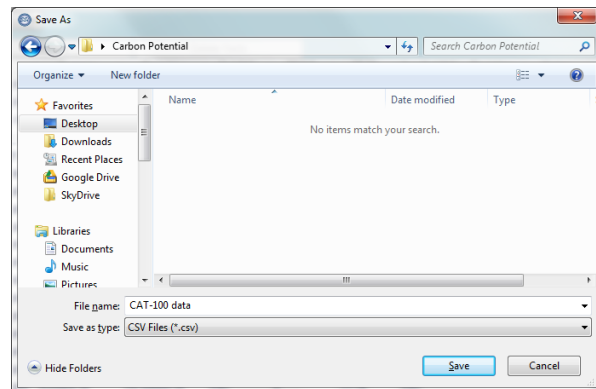

Figure 47 - Saving CSV file in CAT-100 View
1. Save the CAT-100 data to a CSV file using the **Export Tests to CSV** option in CAT-100 View (see example in Figure 47).